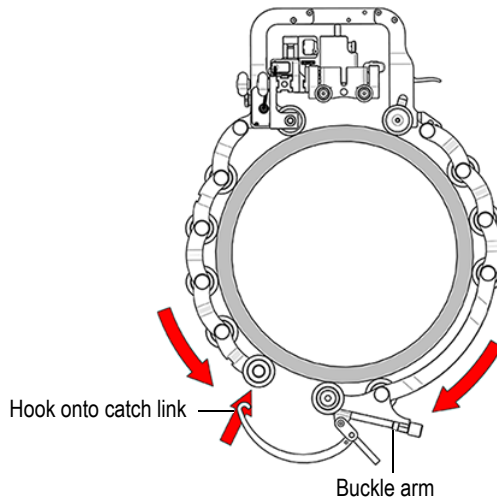

Figure 2-5 Hook buckle arm to catch link
9. Bring the buckle arm towards the catch link (see Figure 2-5 on page 36).